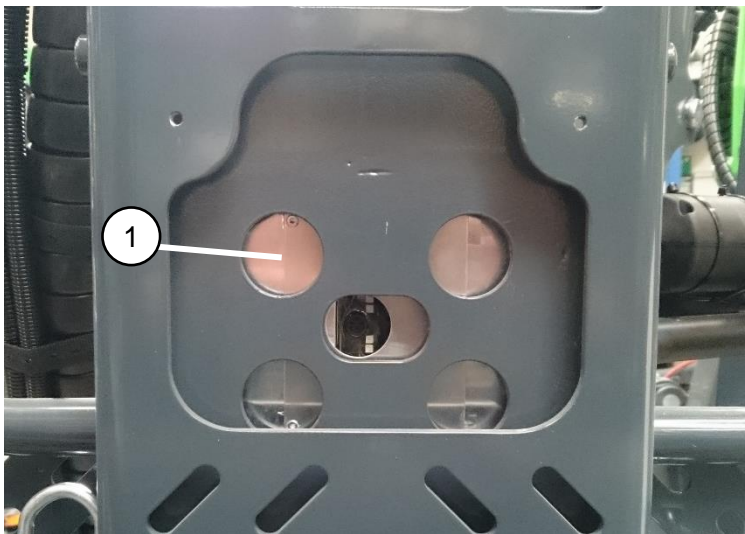

Figure 30 Load cell unit
Upper boom angle and telescopic boom outreach is monitored with a sensor which is located inside the upper boom located in the front side of the access platform (Figure 30 (1)).